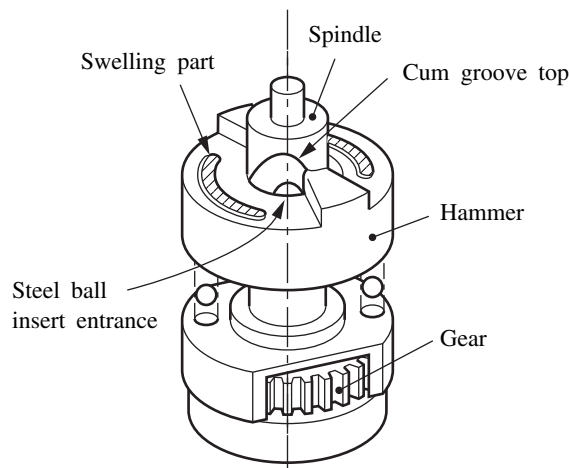

Fig. 2
(3) Disassembly of Hammer:Press Hammer down with Arbor press, put together Steel ball insert entrance of Hammer with Cum groove top of Spindle as Figure 2, and take out Steel ball.